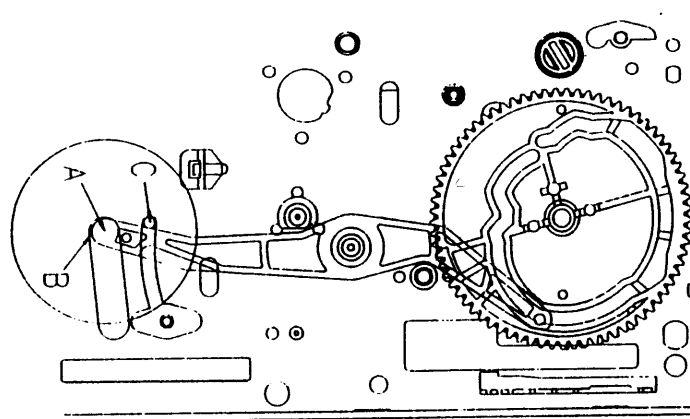

Fig. 4-2 DATUM POSITION OF RELAY LEVER & CAM GEAR
- b). Make sure that the ending part "A" of the RELAY LEVER assembled in the CONNECT PLATE is fully rotated up to the left side of "B" of the MAINBASE and is attached to the boss "C" of the MAINBASE as shown in Fig. 4-2.